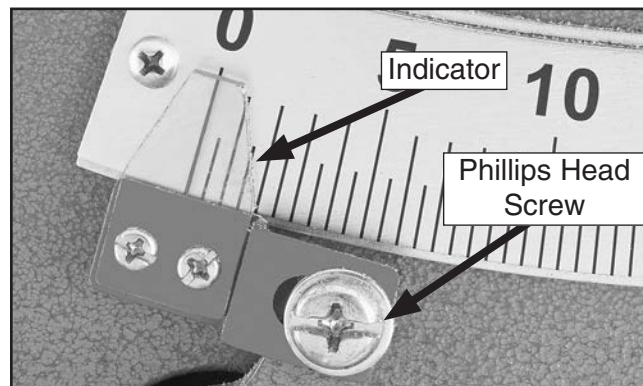

Figure 105. Tilt indicator arrow.
- If blade is 90° to table, then adjustments do not need to be made. Make sure tilt indicator arrow shown in **Figure 105** points to 0° mark on scale. If it does not, remove blade height lock knob, loosen blade height handwheel set screw and remove handwheel.